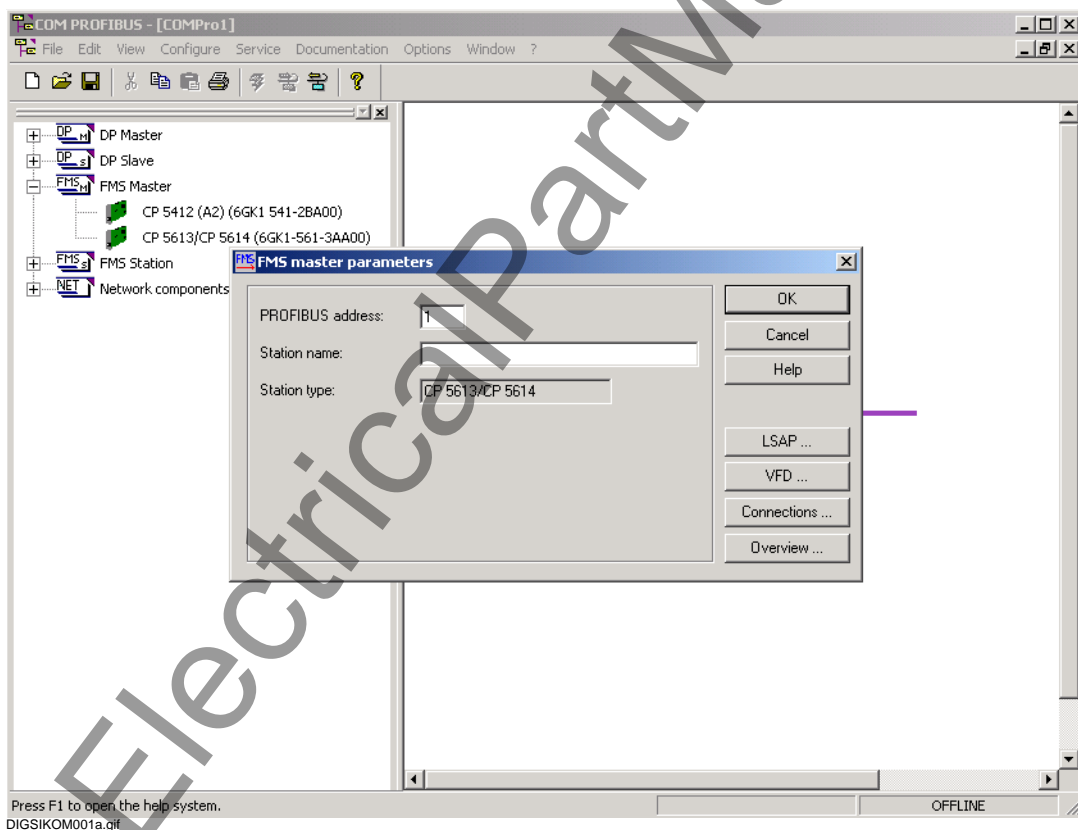

Fig. 7-17 New master system
- Drag & drop the FMS master CP5613/CP5614 from the selection list onto the working area (see Figure7-17).